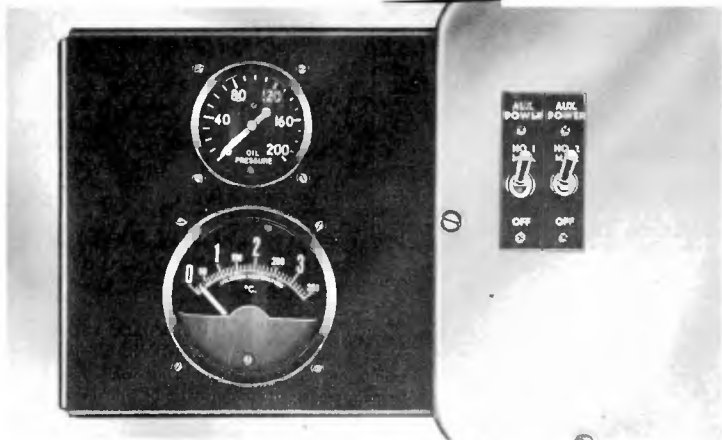

Figure 6—
(6) AUXILIARY POWER PLANT CONTROLS.—The auxiliary power plant fuel valve is on the right-hand side of the instrument panel, just above the starboard strainer drain valve.
e. CREW'S QUARTERS—AUXILIARY POWER PLANT CONTROLS. (See figure 6.)—The Lawrence type 1A, Model 30D auxiliary power plant is situated on the port side of the crew's quarters, just above the bunk. The unit is started manually by means of a rope wrapped around the starting pulley.